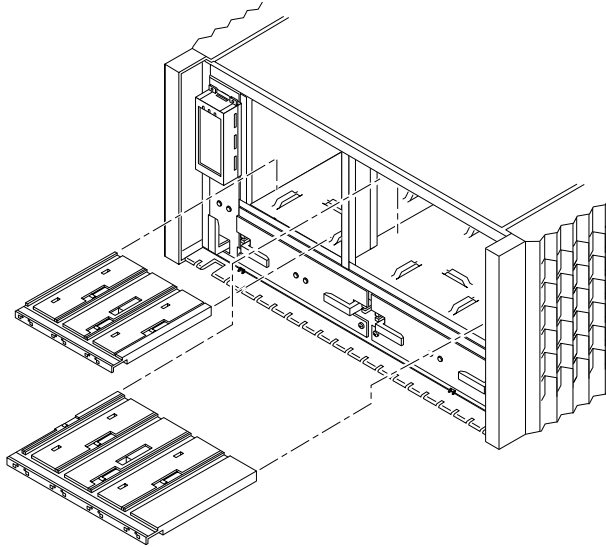

FIGURE 7-15 Removing the Lower Disk Drive Guides
6. Remove the lower disk drive guides (FIGURE 7-15).